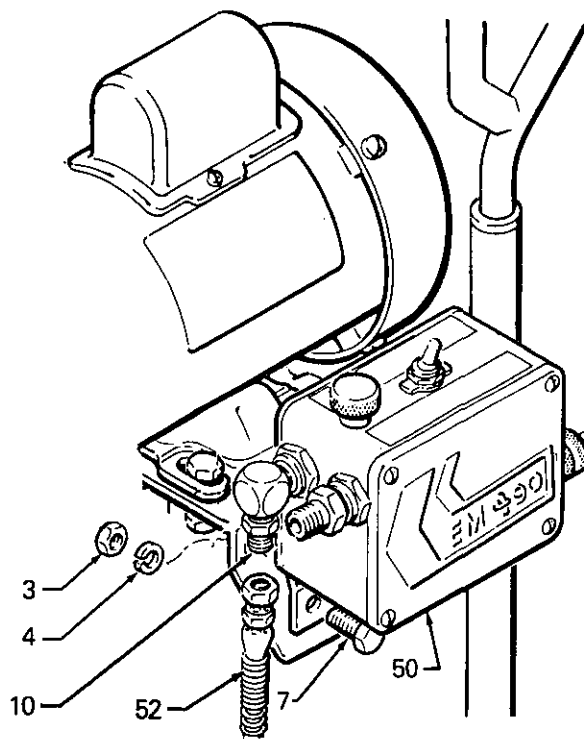

Fig 23
Disconnect hose (52) from nipple (10). See Fig 23.